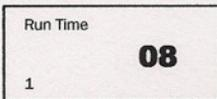

FIGURE 3
STEP 3: The 7:00am setting that now appears on the display has been factory installed. This is a very common time that is used often, but if the 7:00am setting is not desired, you can pulse or hold the up or down arrow buttons until the desired time is displayed. (Please note the small number 1 in the lower left hand side of the display. — This is the first feed time for the unit. A total of 6 are possible. — We will refer to this number as we move to the following steps.) After the desired feed time is displayed, press the SELECT/ENTER button one time. The display will show FIGURE 3.
STEP 4: The display should now show FIGURE 3. Note the number 1 in the lower left side of the display (It shows this is still concerning your number 1 feeding). The 08 setting is factory installed and is a very common setting. If this setting is not what you desire, press the up or down arrow key until the number of seconds of run time you want are correct. A possible of 1 to 30 seconds can be set. The 08 second setting should throw approximately 1 pound of corn. After the correct number of seconds are on the display, press the SELECT/ENTER button one time. The display should now show FIGURE 4.